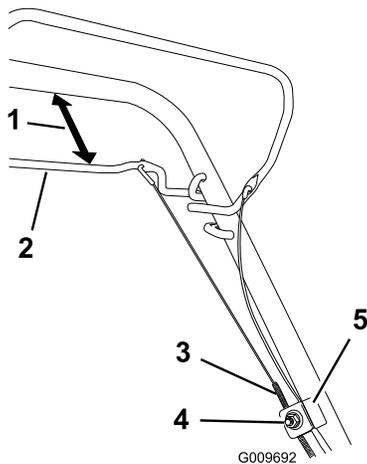

Figure 27
- Loosen the cable support nut (Figure 27).
- Hold the self-propel drive bar 25 to 38 mm (1 to 1-1/2 inches) from the handle (Figure 27).
- Pull down the cable jacket (toward the mower) until there is no slack in the cable (Figure 27).